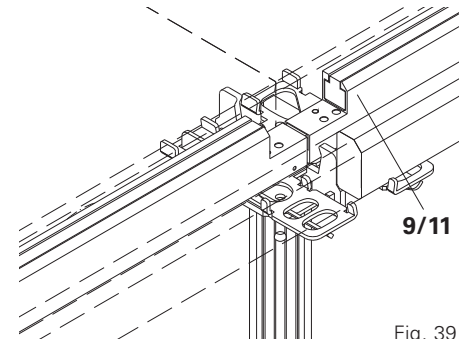

Fig. 39
- Edge Beam SRT (9) and Filler Timber SPH (11) or timber provided by the contractor with $b = 3.8 - 8$ cm and $h = 9.8$ cm (Fig. 39)